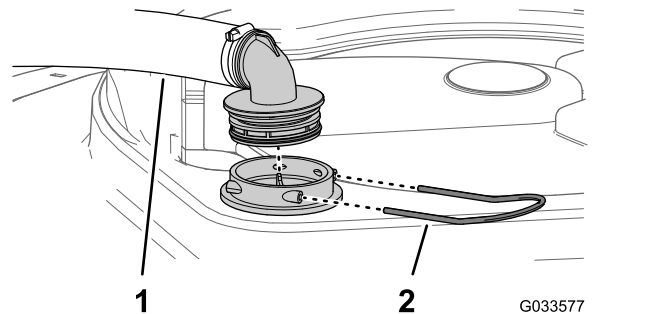

Figure 94
2. At the top of the sprayer tank, remove the retainer that secures the hose fitting attached to the large hose from the filter housing (Figure 94).
3. Remove the hose and hose fitting from the filter housing (Figure 94).